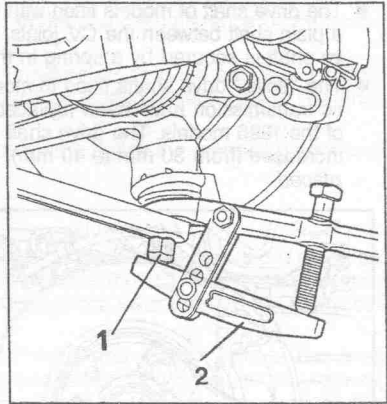

Fig. 4.3. — Removal of the lower suspension ball joint (1). An ordinary ball joint puller can be used in place of the special puller (2) shown.
- From the bottom of the suspension ball joint remove the nut as far as the end of the stud thread and using a suitable puller, as for example shown in Fig. 4.3, separate the ball joint stud from the steering knuckle. Release the suspension arm from the steering knuckle.